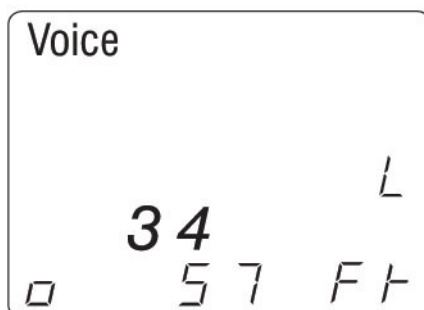

Figure 14. Length of Pin Paris 3 and 4
7. **Measure Pin Pairs:** Press the cable type button again to measure the length of the first pin pair. The number(s) for the pair being measured will display in the screen (see Figure 14). Subsequent presses of the cable type button will cycle through all the pairs and return to the length reading for the entire cable when you have advanced past the last pin pair. The following icons appear in the display screen: